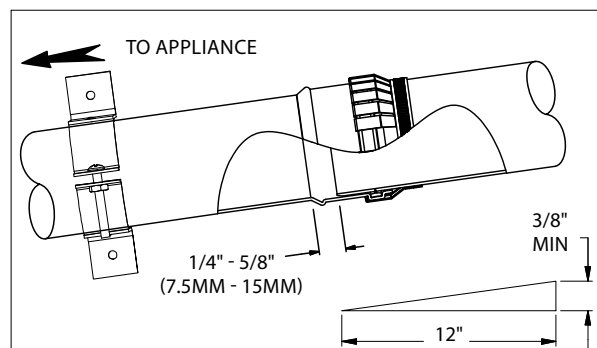

Figure 2
1. The slope of the vent pipe must be at least 1.8° (3/8" rise per ft run, 31mm per meter) back to the appliance. Ensure there are no dips in the system where condensate can collect. (Fig.2)